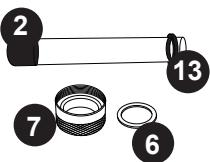

Figure 6
6. Remove the quartz seal compression nut (7) by turning it counterclockwise, Figure 3. Use a pair of channel-lock pliers if needed, Figure 5. You will notice that there is a stainless steel compression washer (6) that slides over the quartz tube. Save the washer (6) for later use, Figure 6. There is also a black seal ring (13), grasp the black seal ring, slowly and carefully remove the quartz tube.
7. Now you are ready to clean or replace the quartz tube (2). For the cleaning of the quartz tube (2), follow steps 8 and 9 then proceed to step 10. For replacing of the quartz tube (2), skip steps 8 and 9 and proceed to step 10.